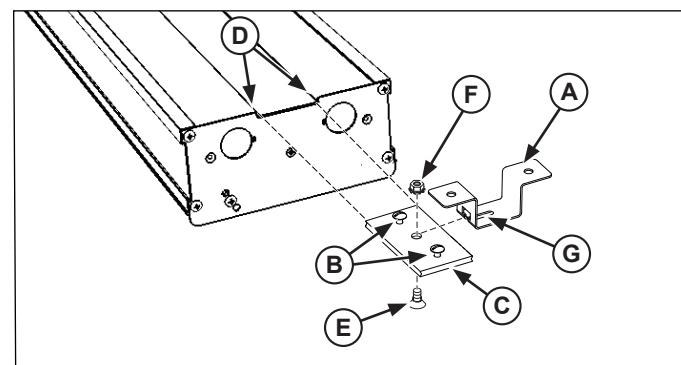

Figure 3. Installing Center Mount Brackets.
- Mount the hanging bracket (A) with the "T" slot cutout, in the locations identified in step 1. Figure 3.